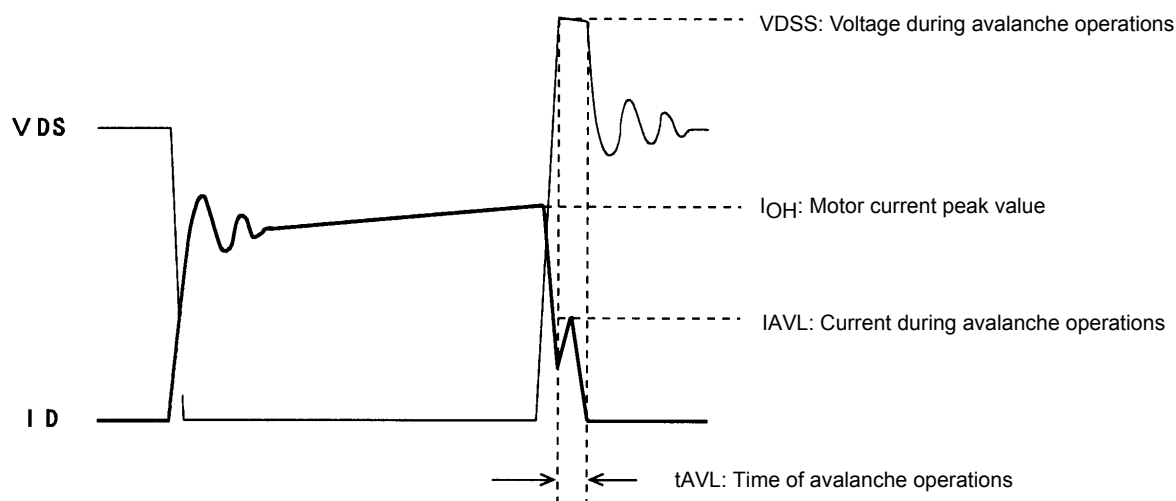

Figure 1 Output Current, I_D , and Voltage, V_{DS} , Waveforms 1 of the STK672-6** Series when Driving a 2-Phase Motor with Constant Current Chopping
When driving a 2-phase Stepper motor with constant current chopping using an STK672-6** Series hybrid IC, the waveforms shown in Figure 1 below result for the output current, I_D , and voltage, V_{DS} .
Although the waveforms during avalanche mode are given in Figure 1, sometimes an avalanche does not result during actual operations.
- Increases in V_{DS} , t_{AVL} , and I_{AVL} in Figure 1 due to an increase in the supply voltage from 24V to 36V.
If the factors above are negligible, the waveforms shown in Figure 1 become waveforms without avalanche as shown in Figure 2.